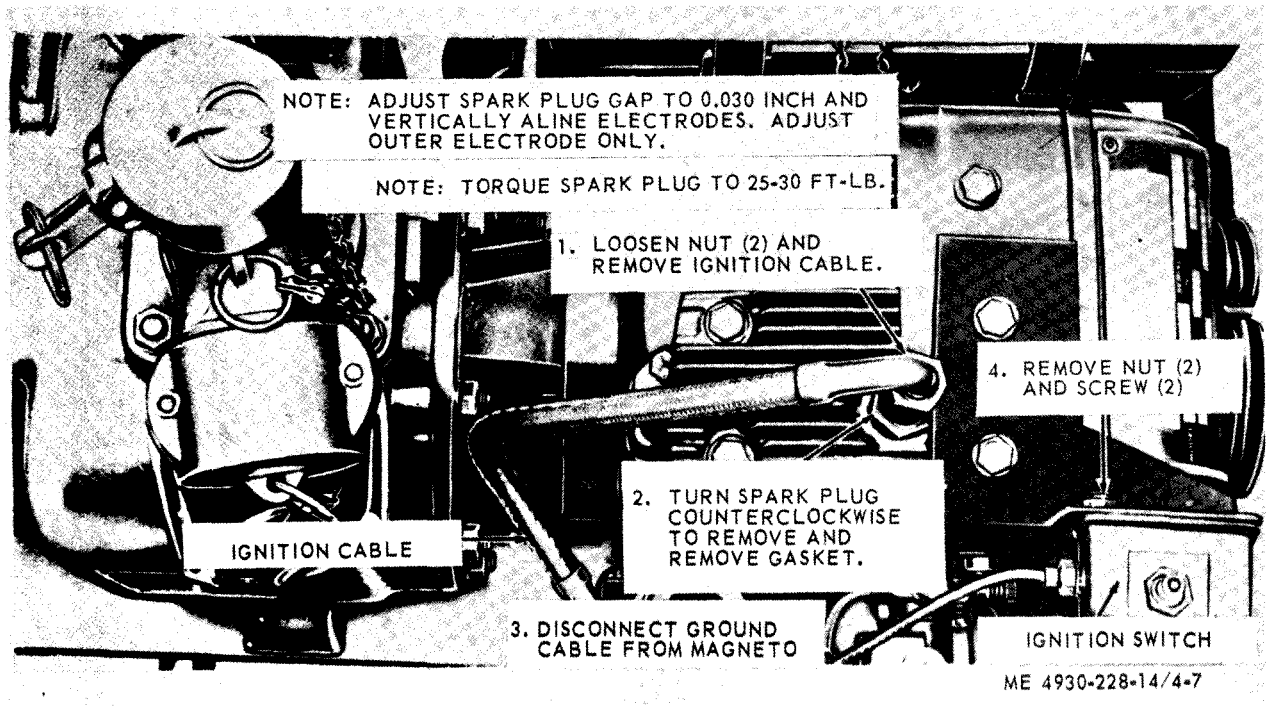

Figure 4-7. Spark plug, ignition cable, ignition switch and ground cable.
- a. Removal.* Refer to figure 4-7 and remove the spark plug, ignition cable, and ignition switch and ground cable.
- (1) Clean all parts thoroughly.
- (2) Inspect the spark plug for broken or burned insulator, excessively burned electrodes, damaged threads, and other damage.
- (3) Inspect the ignition cable for signs of burning, frayed, shielding, and other damage.
- (4) Inspect the ignition switch for signs of burned areas, frayed ground cable, and other damage.
- (5) Replace all defective parts.
c. Installation. Refer to figure 4-7 and install the spark plug, ignition cable, and ignition switch in reverse of removal.